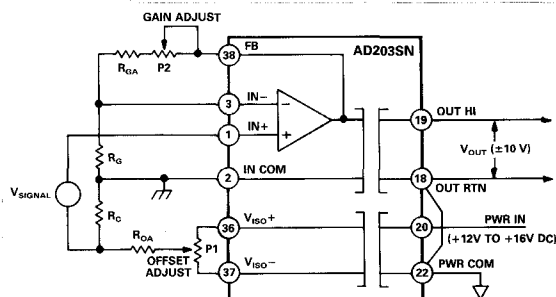

Figure 20. Input Adjustments for the Noninverting Mode of Operation
**Offset Adjustment.** Figure 20 shows the suggested input adjustment connections when the isolator's input amplifier is configured for the noninverting mode of operation. The offset adjustment circuit injects a small voltage in series with the low side of the signal source. The adjustment potentiometer P1 modulates the injection voltage and is therefore responsible for nulling out the offset voltage.
- The offset adjustment circuit of Figure 20 will not work if the signal source has another current path to input common, or if current flows in the signal source LO lead. If this is the case, use the output adjustment procedure.
**Gain Adjustment.** Figure 20 also shows the suggested gain adjustment circuit. Note that the gain adjustment potentiometer P2 is incorporated into the gain-setting resistor network at the isolator's input.